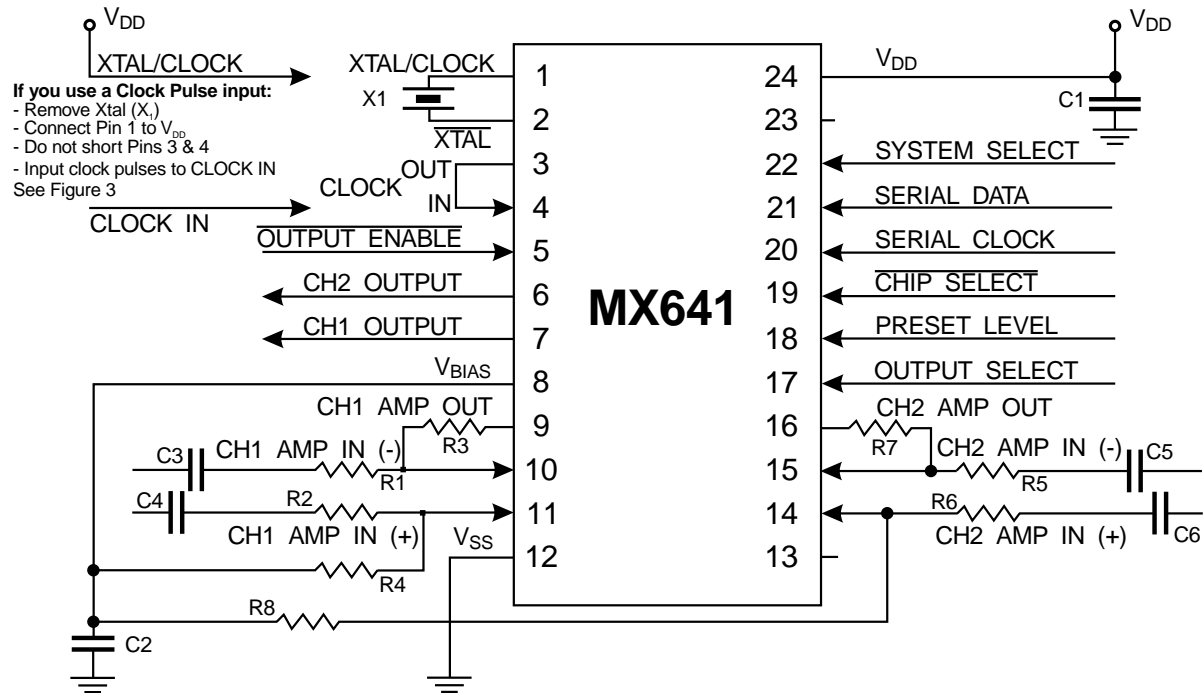

Figure 2: Recommended External Components
With the external gain (sensitivity) components used as shown in Figure 2, the gain of the input stages is 19.8dB (12kHz) or 20.5dB (16kHz). For controlled sensitivity setting the gain of each bandpass filter, and therefore the device sensitivity, is adjusted by the applied serial bits D1 to D5.
1. The recommended amplifier components (see Figure 2) are used, providing an amplifier gain at 16kHz of 19.8dB \pm 0.3dB or at 12kHz of 19.1dB \pm 0.3dB.